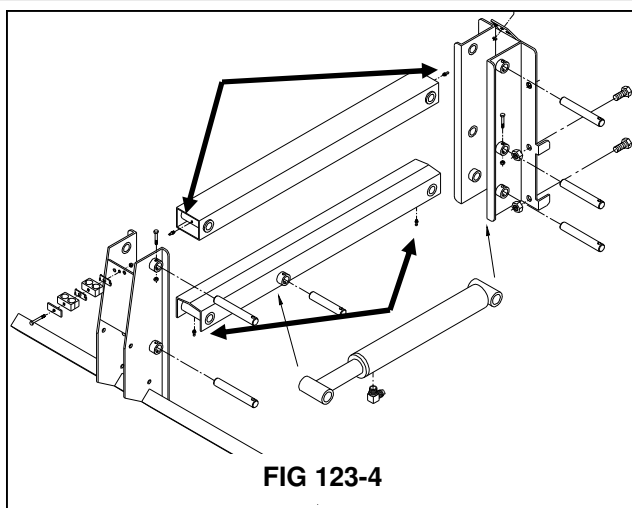

FIG 123-4
**LIFT ARM ASSEMBLIES-**Each lift arm assembly has four grease zerks. There is one zerk at each end of the upper and lower lift arms (fig. 123-4).